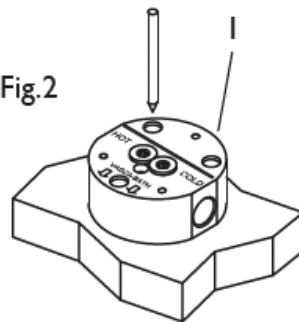

Fig.3
Fig.3 Once the concealed base is securely fastened using the supplied fixings (2 and 3), connect the two water supply pipes (4). The concealed base must completely level to ensure the mixer body is vertically straight once attached. Carry now a test to check for leaks.